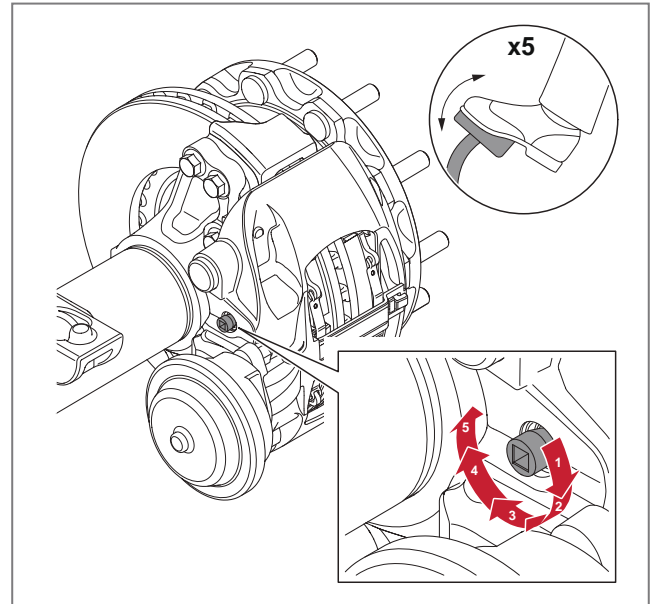

Fig. 9 - Brake actuation
5. Actuate the brakes five times by pressing and releasing the vehicle brake pedal through its full stroke, see ► Fig. 9. If no brake chamber is fitted then actuate the brake chamber lever manually with a suitable tool.